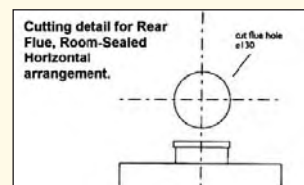

Fig 11.4a
- 1) With the boiler mounted in position, see section 7.0, draw a horizontal line on the wall 210 mm (15, 25 & 45 models) above the top of the boiler. See fig 11.4a.
- 2) Mark the center of the flue spigot on the wall, remove the boiler from its hanging bracket and carefully position to one side. Draw a vertical line from the center mark of the flue spigot to intersect the horizontal line. See fig 11.4a.
- 3) At the intersection of the horizontal and vertical lines, cut a 130 mm \varnothing hole with a core drill. See fig 11.4a.